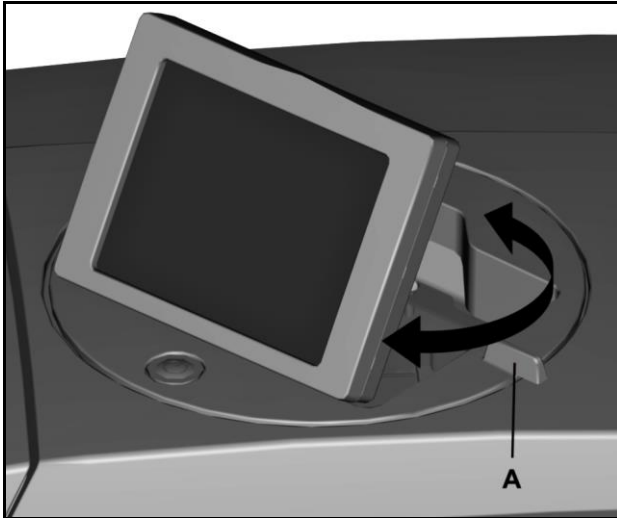

Figure 13 Rotating the touch panel
- 2 Rotate the touch panel by its handle (A) to the required position (see "Figure 13 Rotating the touch panel").